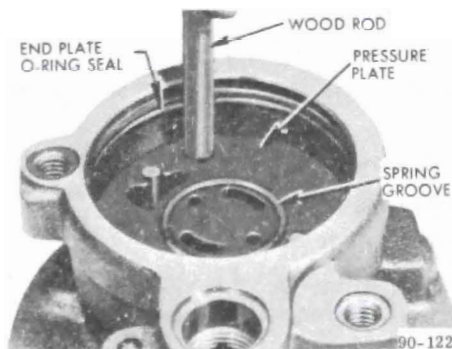

Figure 90-84 - Seating Pressure Plate in Housing
and lightly tap around *outside diameter* of pressure plate to seat it. See Figure 90-84. Pressure plate will travel about 1/16" to seat. *Never press or hammer on the center of pressure plate as this will cause permanent distortion and result in pump failure.*
11. Install new end plate "O" ring seal in groove in bore of housing. Be sure not to install it in end plate retaining ring groove which is first groove from rear of housing. See Figure 90-84.